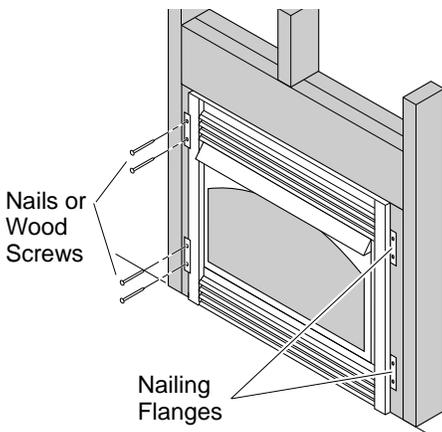

Figure 16 - Attaching Fireplace Insert to Wall Studs
- Attach fireplace to wall studs using nails or wood screws through holes in nailing flange (see Figure 16).